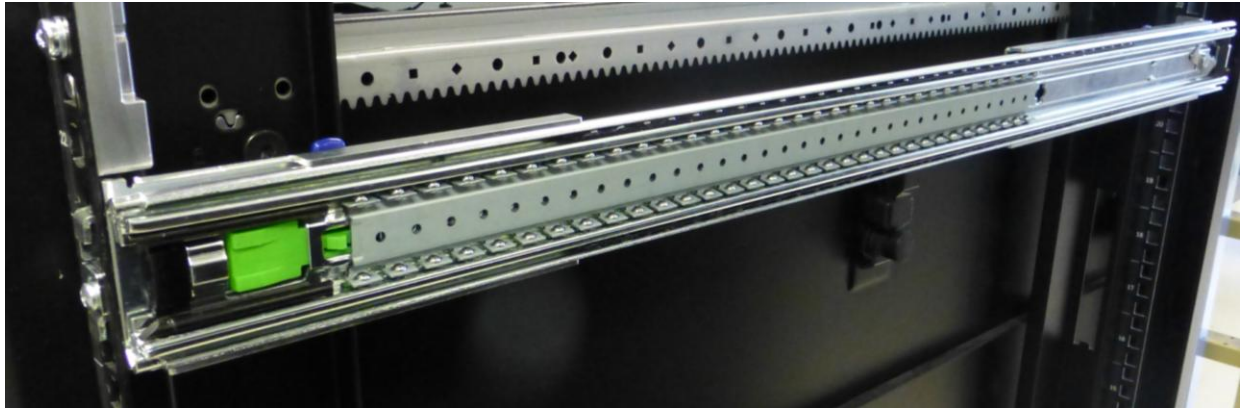

Figure 12. **Rails Pushed into Rack for Chassis Installation**
2. Ensure slide rails are seated in chassis as shown in Figure 12.
Ensure middle slider and ball retainer are in correct position (Figure 12). Failure to comply may result in personal injury or equipment damage.